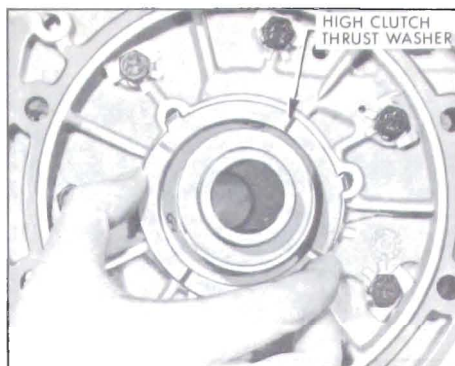

Figure 5-117—High Clutch Thrust Washer Installation
3. Install tanged bronze high clutch thrust washer on reaction flange, using chassis lube to hold it in position. See Figure 5-117.